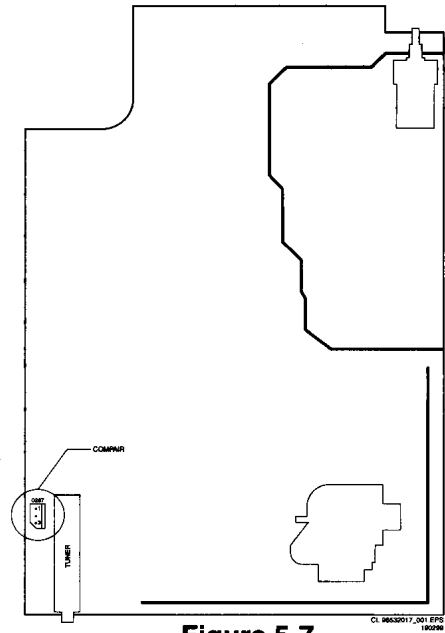

Figure 5-7
8. Connect the other end of the interface cable to the Compar connector on the monocarrier (see figure 5.7)